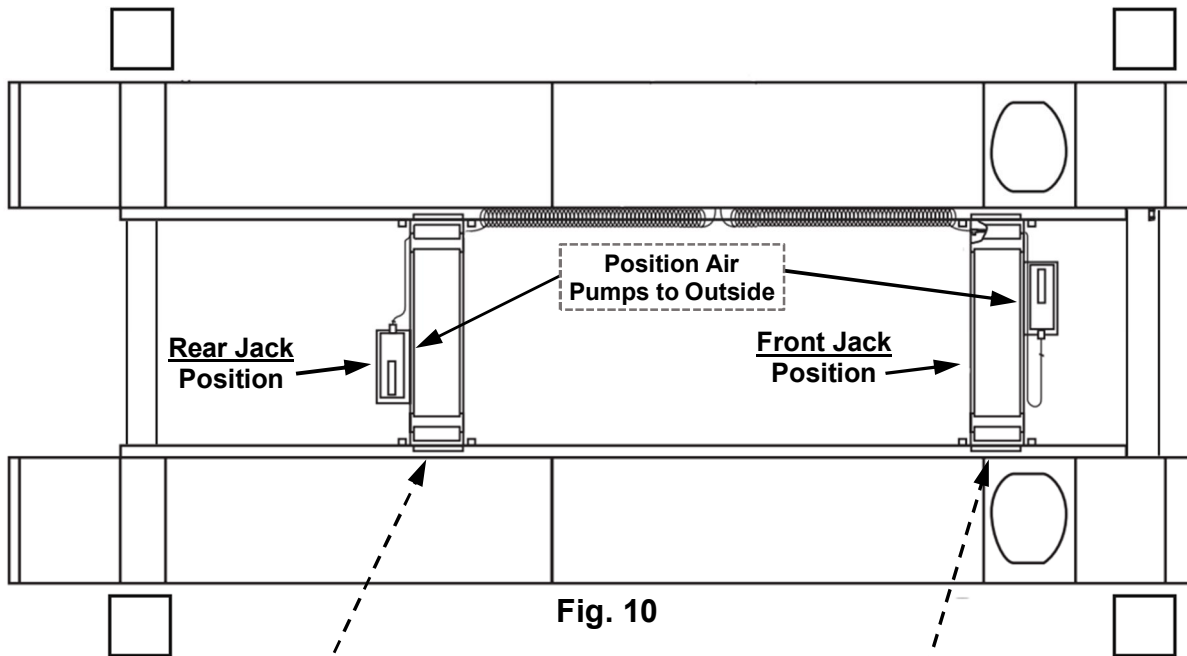

Fig. 10
- 1) Ensure Rolling Bridge Jacks are already positioned & installed on runways, as shown below in **Fig. 10**.